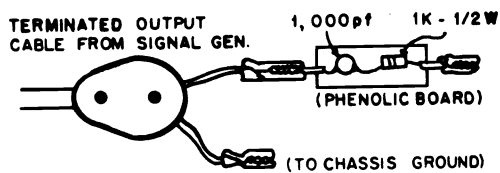

FIG. 3 - GENERATOR COUPLING NETWORK (REFER TO STEP NO. 8)
8. Disconnect generator output leads from grid of the first I-F amplifier and couple them to the mixer tube (V-14) of the VHF tuner, using the signal injection shim described below. If this is impractical, connect the generator output leads to the I-F mixer point on the tuner, using the coupling network shown in Fig. 3.